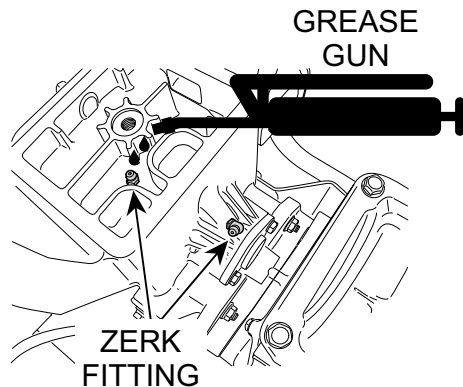

Figure 26. Grease Fittings (Crankcase)
- The rammer crankcase bearings (Figure 26) should be lubricated with **five shots** of grease with a hand grease gun after each eight (8) hours of use.